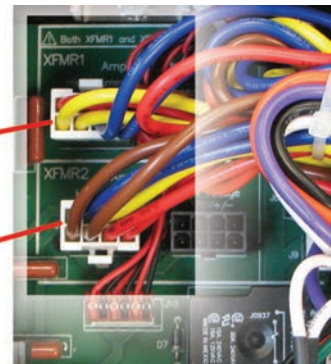

Figure 5.6 – J3 and J7 Plug Locations for High-Current Output
2. For High Current (90V) Output (see **Figure 5.6**).